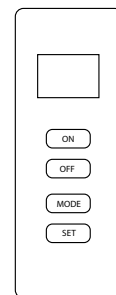

Fig. 19 - Remote
7. Keep control knob depressed for (30) seconds after pilot lights. Release control knob.
- If pilot goes out repeat steps 3 through 7. Wait (1) minute before attempting to light pilot again. If after several tries the pilot still goes out, turn the gas control knob clockwise  to the “OFF” position and call a qualified service technician.
9. To use the included thermostatic remote control, set receiver switch to the “REMOTE” position (See Fig. 19). Press the ON button to turn on the remote to ignite the main burner. Refer to the remote control instruction manual on the next page for “MODE” and “SET” functions.